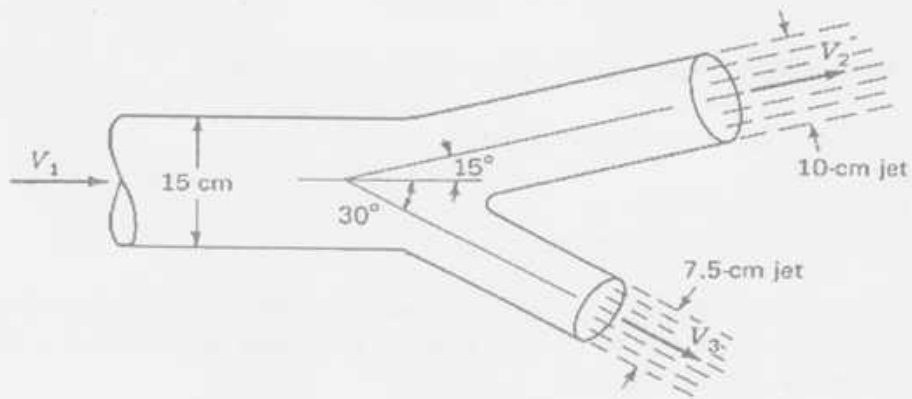

Figure- 6
- (c) Determine the magnitude and direction of the resultant force exerted on the double nozzle as shown in Figure- 6. Both nozzle jets have a velocity of 12 m/s. The axis of the pipe and both nozzles lie in a horizontal plane, $\gamma = 9.81 \text{ kN/m}^3$. Neglect friction. (15)